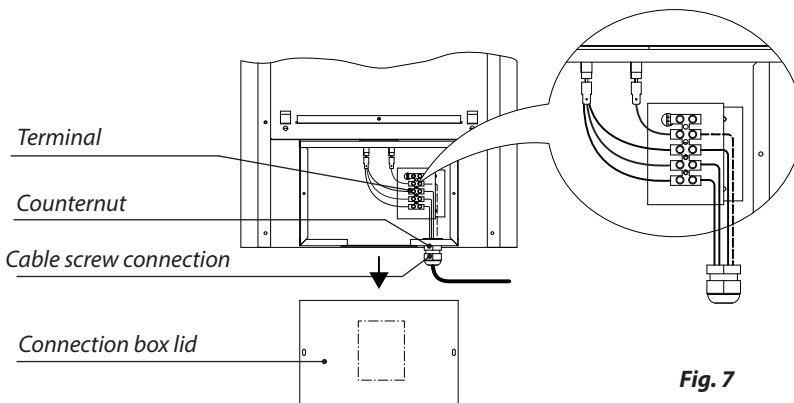

Fig. 7
- Electrical connection acc. to Fig. 7 and connection example.